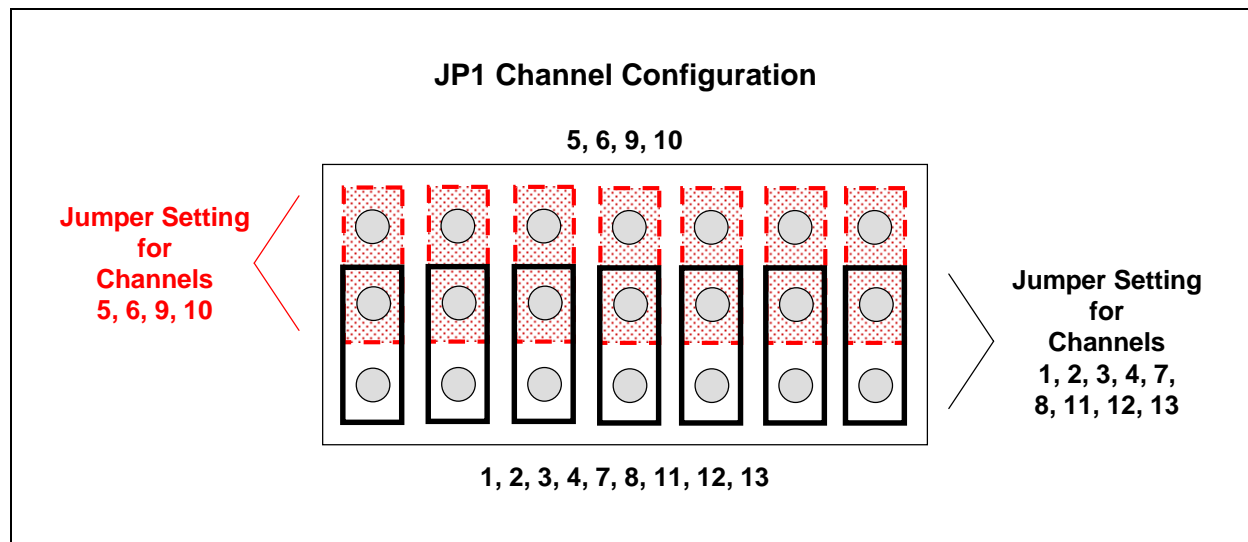

Figure 1. ASC Card Jumper Block
6. Refer to figure 1. On both the operational and spare ASC, set the backup channel configuration by positioning the seven jumpers on JP1. Using all seven jumpers, move the jumpers to the side of the block that lists the number of output channels for your site configuration (the center row of pins is common). For example, if your site has 5, 6, 9, or 10 channels, connect each jumper from the center pin to the top pin; if your site has 1, 2, 3, 4, 7, 8, 11, 12, or 13 channels, connect each jumper from the center pin to the bottom pin.